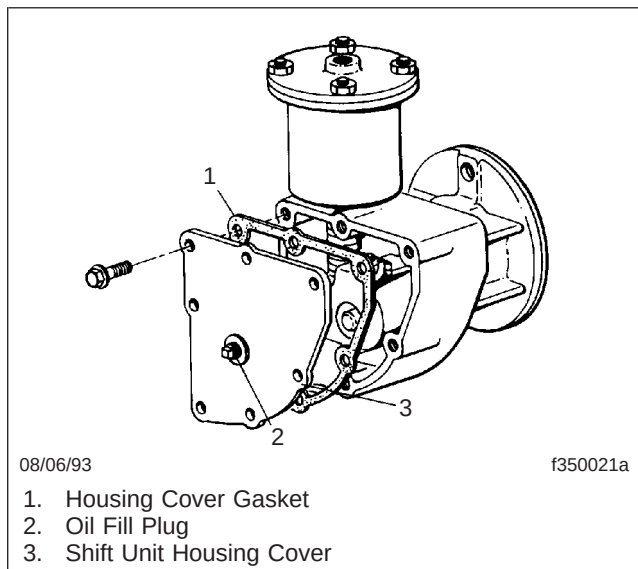

Fig. 6, Two-Speed-Axle Shift Unit
- Remove the shift unit housing cover. See Fig. 6. Drain and discard the old lubricant. Discard the housing cover gasket.
1. Clean the shift unit oil fill plug, and the area surrounding the plug. See Fig. 6. Turn the fill plug in a counterclockwise motion and remove the plug.